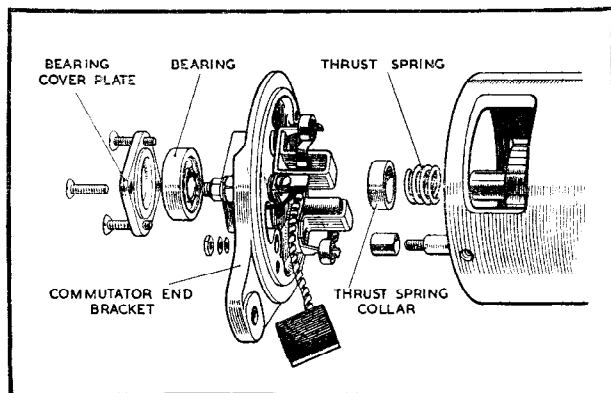

Fig. 11 Commutator end bearing details (generators C45PVB, C45PVS, etc., earlier models)
- (i) With generators of the earlier design shown in Fig. 11, remove the square bearing cover plate and press the bearing out of the end bracket. See that the new bearing is clean and packed with high melting point grease and press it into the housing in the end bracket.